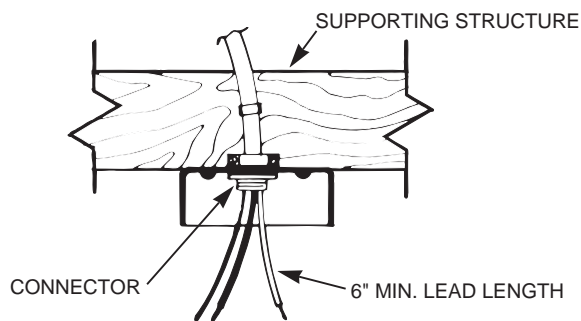

FIGURE 2
**A.** Bring electrical cable into the outlet box and attach with an approved connector. Make certain that wiring meets all national and local electrical codes. Wire leads should extend at least 6" beyond outlet box for ease in making connections. See Figure 2.